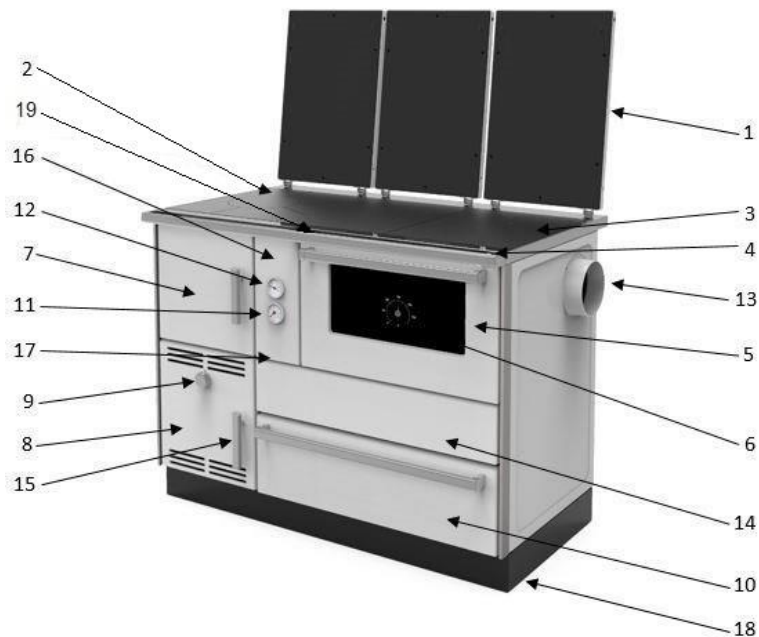

Figure 1
2. APPEARANCE AND STRUCTURE OF COOKER WITH BOILER FOR CENTRAL HEATING (Fig. 1)
- combustion regulator (thermostat) (Fig. 1, pos. 9 and Fig. 9, pos. 22), located in the ash pan door, which automatically shuts the air supply into the firebox when the pre-set water temperature in the boiler is reached,
- combustion regulator (thermostat) correctly opens and closes the thermostat damper (Fig. 9, pos. 22), by using the regulation knob (Fig. 1, pos. 9).
Place the chimney connection (collar) (Fig. 1, pos. 13), which is delivered together with the cooker and placed inside the wood box, and screw it on the outlet on the cooktop or on the side outlet. First remove the cover and use the same screws to fasten the collar.